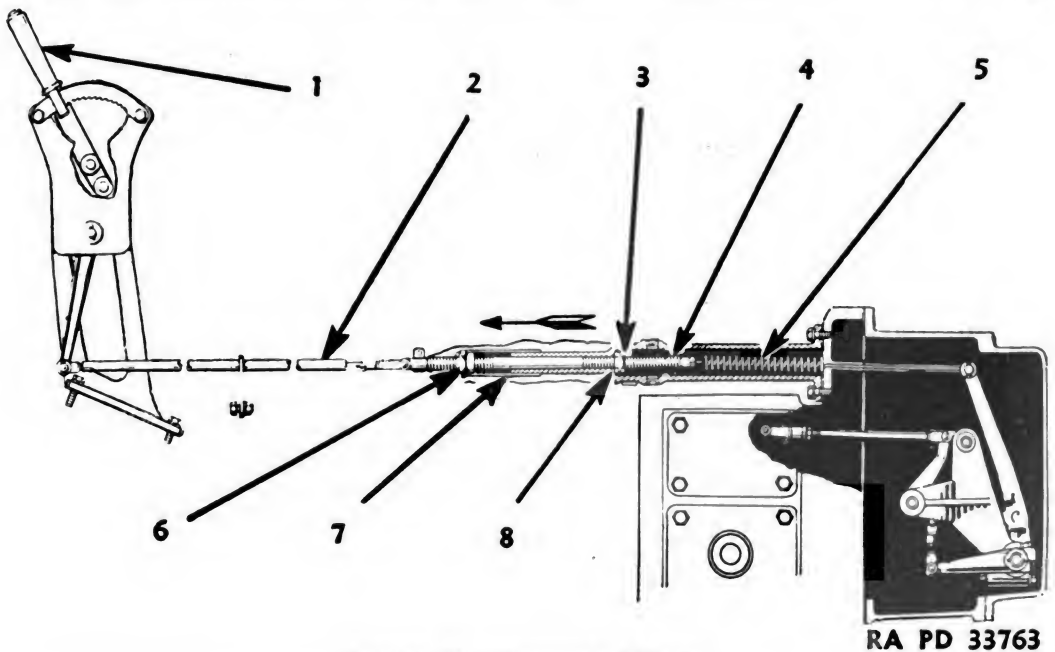

FIGURE 65.—Governor linkage.
52. General.—a. Governing of the engine is maintained by the centrifugal force of the governor weights as opposed to the tension force of the governor spring. Any difference in force values is transmitted through various linkage (fig. 65) to move the slide bar and increase or decrease the amount of fuel delivered to the combustion chambers. Moving the hand throttle changes the tension on the governor spring; the greater the tension, the higher the speed.
b. When hand throttle (1) is moved toward the open position as shown, connecting rod (2) and throttle control rod (4) are moved in
b. Stop the engine and remove covers (2), (5), and (6), (fig. 65). Move fuel pump control lever to the “run” position and hand throttle to the high idle position. Lengthen or shorten the adjustable rod (found after removing cover (6), (fig. 65) so the flyballs will have $\frac{1}{16}$ inch free movement. Shorten the rod to increase the free movement, lengthen the rod to decrease the free movement.